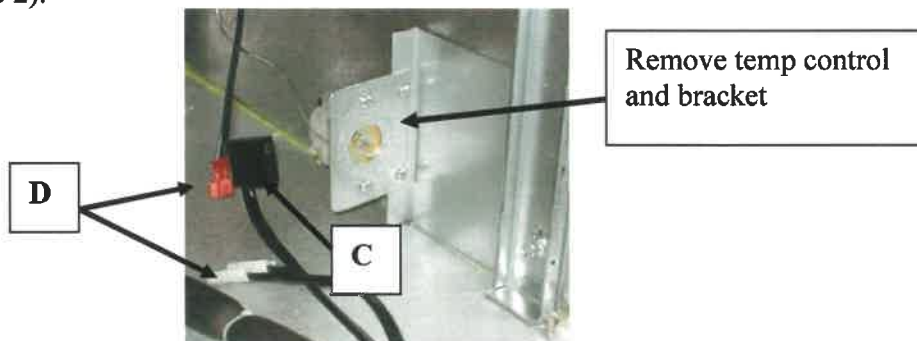

Figure 2
4. Disconnect the connector from the manual Temperature Control on the right side of the inner tank (C Figure 2).
5. Disconnect both Evaporator Fan connectors below the Vend Chute on the right side of the inner tank (D Figure 2).
- Connect the other 'ribbed' side of Fan Jumper harness (804,917,39x.x1) to the 'ribbed' side of Evaporator Fan Leads (Figure 2). Connect one end of the 'smooth' side of Fan Jumper harness (804,917,39x.x1) to the smooth side of the Evaporator Fan Leads (Figure 2) and the other smooth side of the Fan Jumper harness (804,917,39x.x1) to the 'NO' contact of Fan Relay.